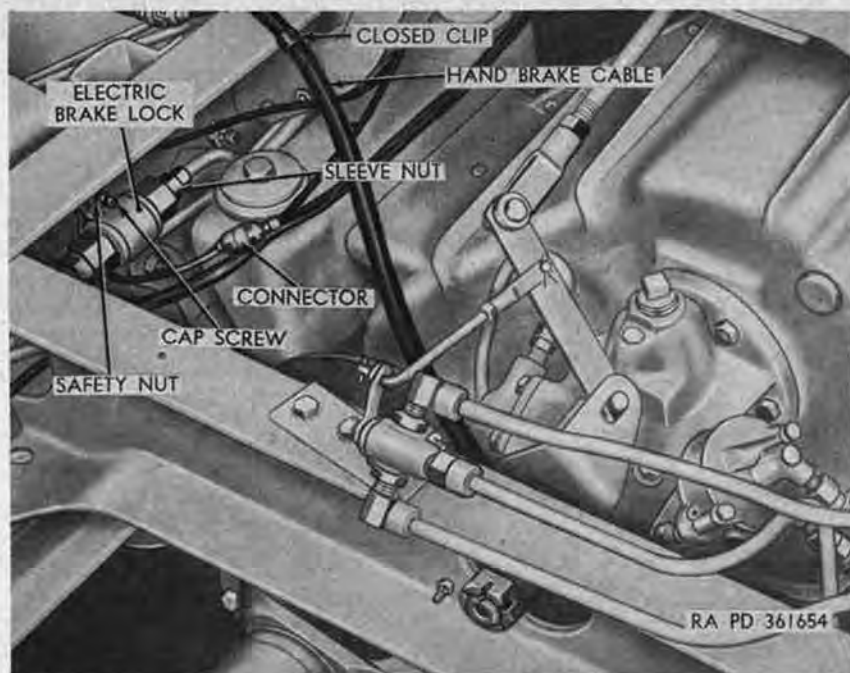

Figure 192. Electric brake lock mounted on frame left side rail.
a. Electric Brake Lock Removal (fig. 192).
- (1) Disconnect bayonet-type connector securing brake lock cable to brake-lock-switch-to-brake-lock harness, and separate cable and harness.
- (2) Unscrew two sleeve nuts securing brake hydraulic lines to front and rear of brake lock, and remove lines from lock.
- (3) Remove safety nut and cap screw securing brake lock to inside of frame left side rail, and remove lock from vehicle.
b. Electric Brake Lock Installation (fig. 192).
- (1) Position electric brake lock on inside of frame left side rail, and secure with cap screw and safety nut.
- (2) Position brake hydraulic lines at front and rear of brake lock, and tighten the two sleeve nuts.
- (3) Connect bayonet-type connector on brake lock cable to brake-lock-switch-to-brake-lock-harness connector.
- (4) Bleed brakes (par. 221), if necessary.